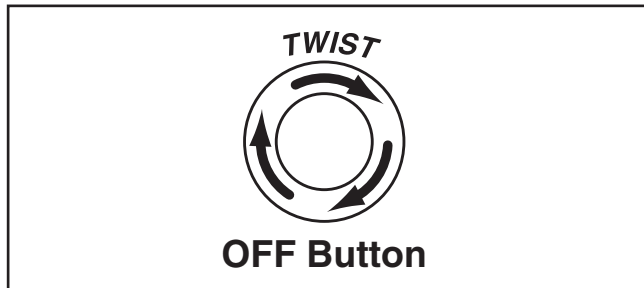

Figure 43. Resetting the OFF button.
- e. Push the OFF button in, then twist it clockwise so it pops out. When the OFF button pops out, the switch is reset and ready for operation (see **Figure 43**).